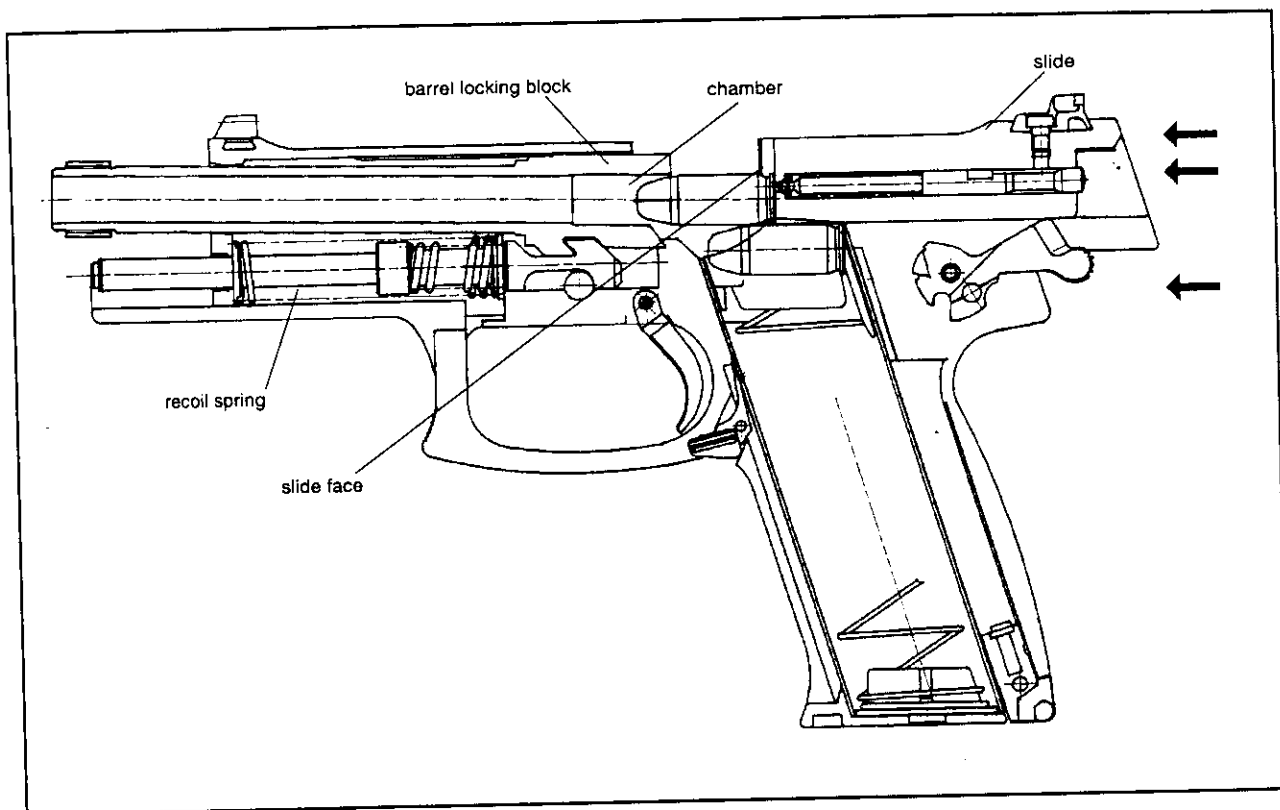

Figure 8 Feeding
- F. **Feeding** - (See Figure 8) -The compressed recoil spring drives the slide forward. If the magazine is empty, the magazine follower will lift the slide release to a point where it will stop the forward progress of the slide. If the magazine is not empty, the face of the slide will make contact with the top round in the magazine. The round will be driven from the magazine towards the chamber. The tip of the projectile is guided into the chamber by the magazine lips until the round clears the magazine completely. At that moment the claw of the extractor snaps onto the rim of the cartridge case as it becomes parallel with the bore.